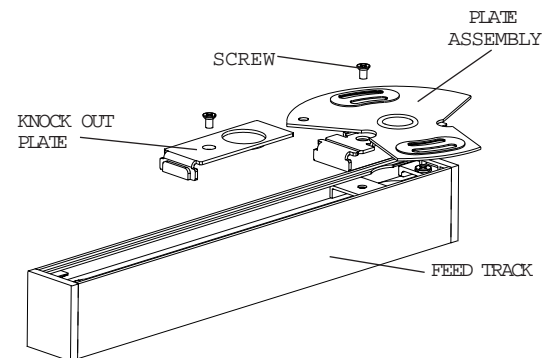

FIG. 2
3. Remove the KNOCK OUT PLATE from the FEED TRACK or CONNECTOR (retain the SCREW). (Fig. 2)
- FEED TRACK: DO NOT BREAK ANY TAB. (Fig. 2)
5. Attach the PLATE ASSEMBLY onto the FEED TRACK or CONNECTOR using the SCREW. (Fig. 2 & 3)